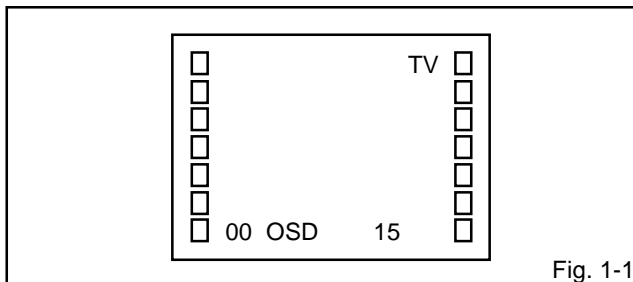

Fig. 1-1
2. Press the VOL. DOWN button on the set and the Channel button (9) on the remote control simultaneously to appear the adjustment mode on the screen as shown in **Fig. 1-1**.
4. Activate the adjustment mode display of **Fig. 1-1** and press the channel button **(03)** on the remote control to select "V.VCO".
3. Activate the adjustment mode display of **Fig. 1-1** and press the channel button **(02)** on the remote control to select "RF AGC".